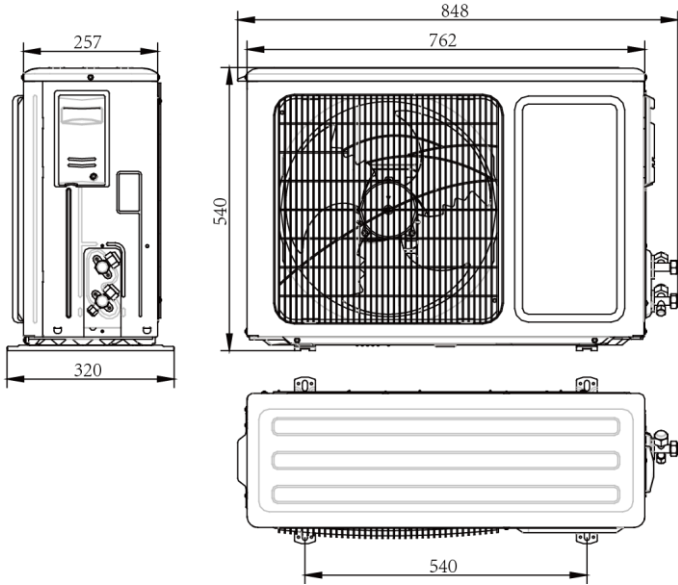

Figure 5-1 Dimension diagram of the main unit structure
(1) The installation requirements of the water heater's main unit are the same as those of the outdoor unit of an air conditioner. The main unit can be installed in the exterior walls, roof, balcony, or ground. The air outlet should avoid the wind direction. The dimension diagram of the main unit structure is shown in Figure 5-1 (unit: mm).